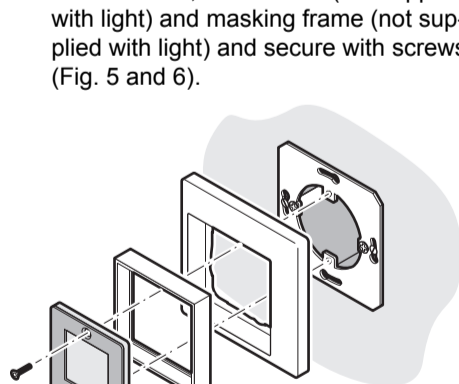

Fig. 5
4. Insert screen, inner frame (not supplied with light) and masking frame (not supplied with light) and secure with screws (Fig. 5 and 6).